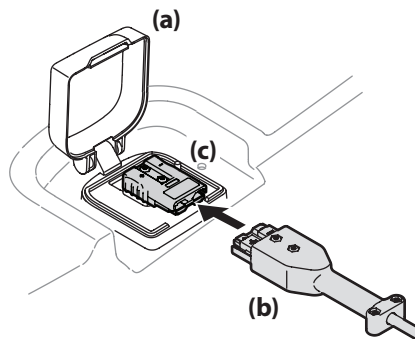

Figure 4-4
- Lift the charge port door (a), located on the rear body panel of the tractor. See Figure 4-4.
- Insert the charging cord (b) into the charge port (c). Plug charger cord (b) into wall outlet. See Figure 4-4.